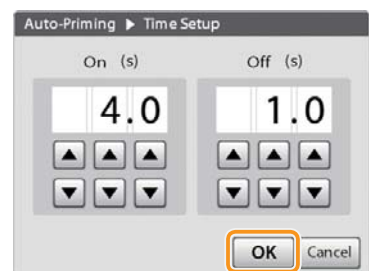

Figure 3-77
4. Tap [OK] to complete the setting. (Figure 3-77)